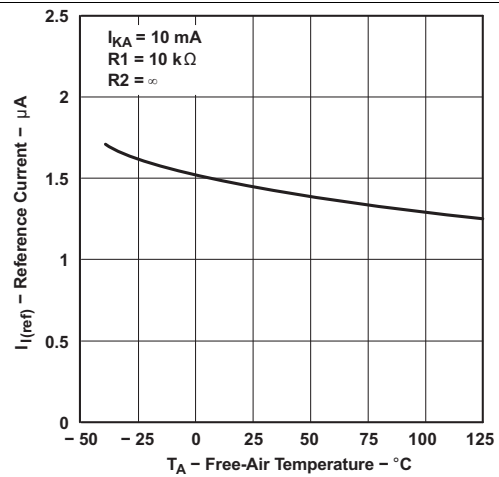

Figure 2. Reference Current vs Free-Air Temperature
- (2) The output impedance is defined as: $|z_{KA}| = \frac{\Delta V_{KA}}{\Delta I_{KA}}$
- When the device is operating with two external resistors (see Figure 2), the total dynamic impedance of the circuit is given by: $|z'| = \frac{\Delta V}{\Delta I}$, which is approximately equal to $|z_{KA}| \left(1 + \frac{R1}{R2} \right)$.
When the device is operating with two external resistors (see Figure 2), the total dynamic impedance of the circuit is given by:
Reference current vs Fire-air temperature	Figure 2